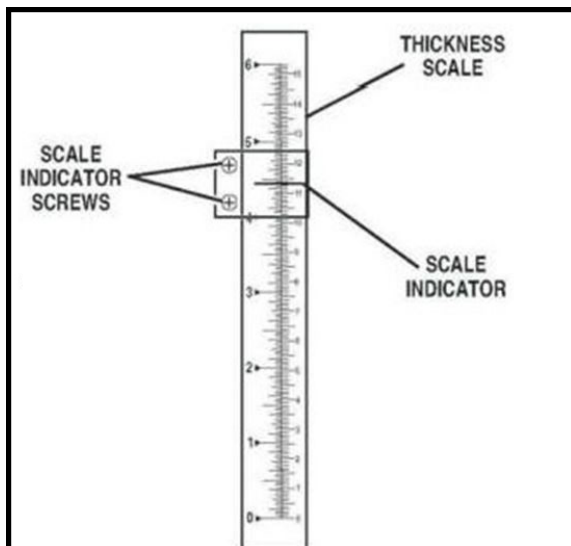

Figure 8
The thickness scale, located on the right of the planer, shows the thickness of the finished workpiece. To make sure the scale is set properly, run a piece of wood through the planer and measure the thickness of the wood. If the scale is out of alignment, loosen the two round head screws (A) holding the scale indicator (B) and adjust the thickness indicator to the correct setting. Make sure to re-tighten the two screws once the adjustment is complete. See FIG 8.